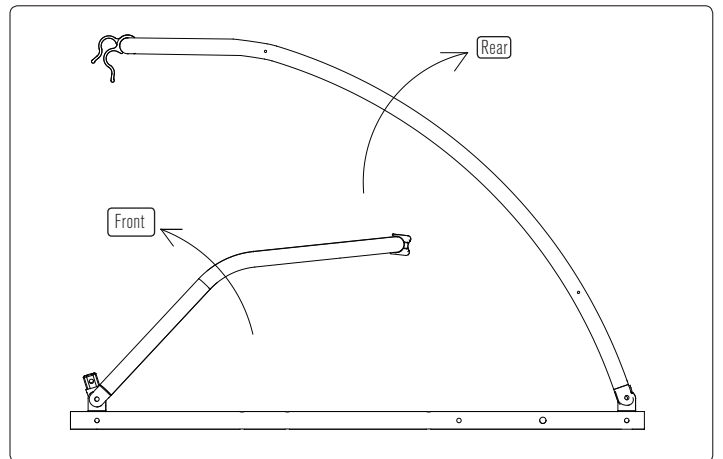

FIGURE 2
1. Rotate front tube upward and rear tube back until they meet on plastic saddles. **FIGURE 2**